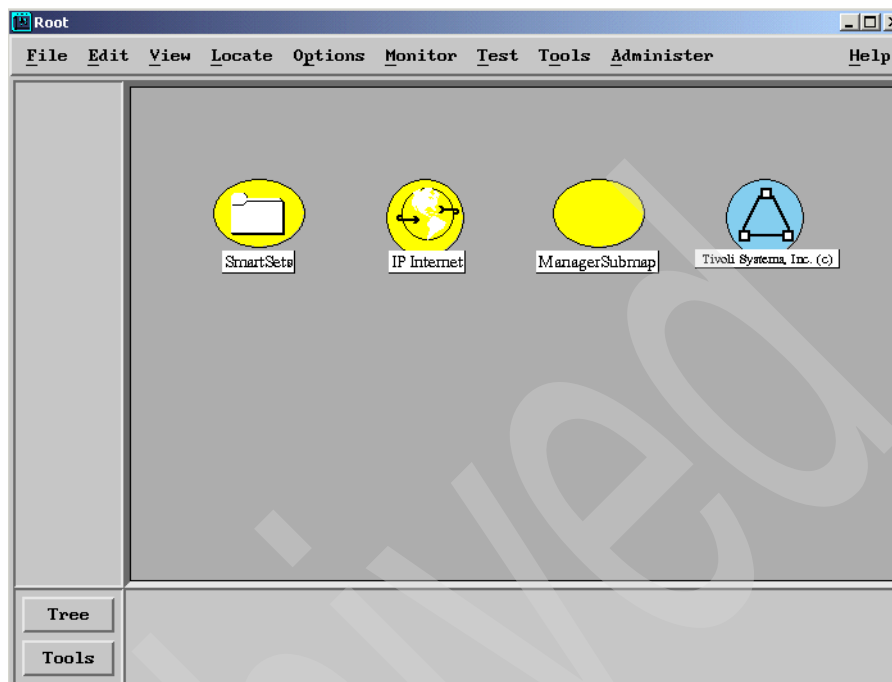

Figure 13-4 NetView Root map with TWS icon added
7. To complete the addition of the new map, click **OK**. The new map, TWS, is shown in Figure 13-4 on page 628.